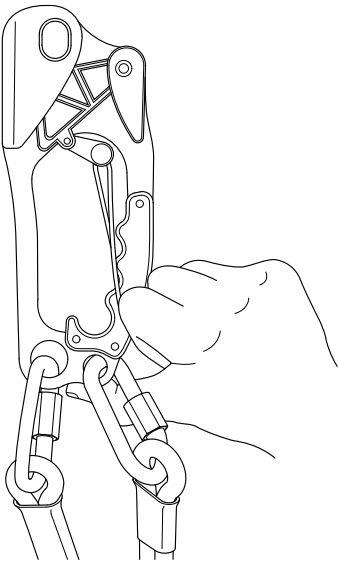

FIG. 1
1. Hold the device and draw back the spring arm and rope grip (Fig.1)